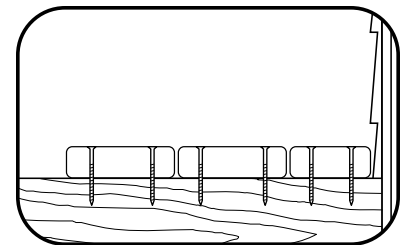

Fig. 15
- Rip last plank as needed to fit (Fig. 15).